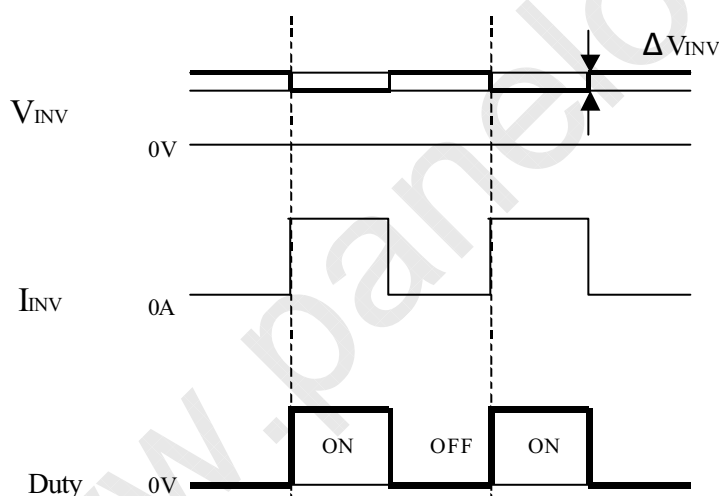

Fig.4 Brightness control voltage.
- Brightness control voltage is switched for “ON” and “OFF”, as shown in Fig.4. Voltage difference generated by this switching,  $\Delta V_{INV}$ , may affect a sound output, etc. when the power supply is shared between the inverter and its surrounding circuit. So, separate the power supply of the inverter circuit with the one of its surrounding circuit.